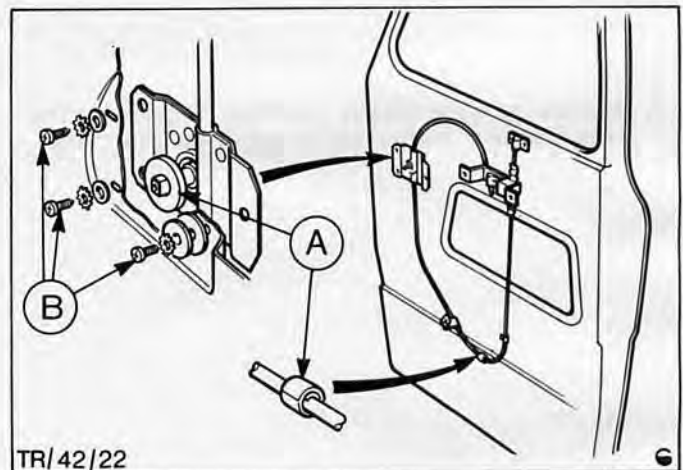

Fig.97. Remove crank mechanism.
6. Remove window crank mechanism (6 screws). Fig.97.